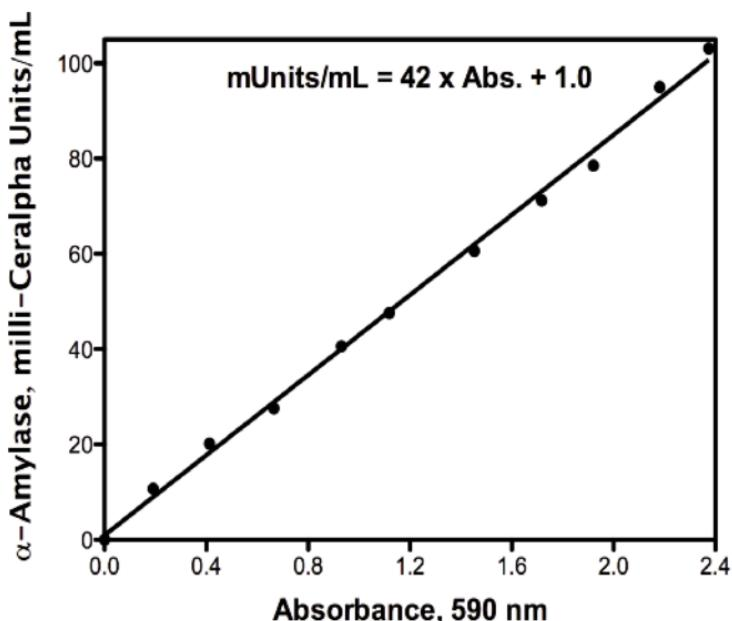

Figure 2. *Bacillus licheniformis* α -amylase standard curve on Amylazyme (Lot 40101).
7. Calculate the α -amylase activity using the *Bacillus licheniformis* α -amylase standard curve for Amylazyme (see Figure 2).
A standard curves relating the activity of *Bacillus licheniformis* α -amylase on Amylazyme Tablets (Lot 40101; absorbance 590 nm) at pH 7.0 and 40°C, to α -amylase activity on Ceralpha reagent (pH 7.0 and 40°C) is shown in Figure 2.